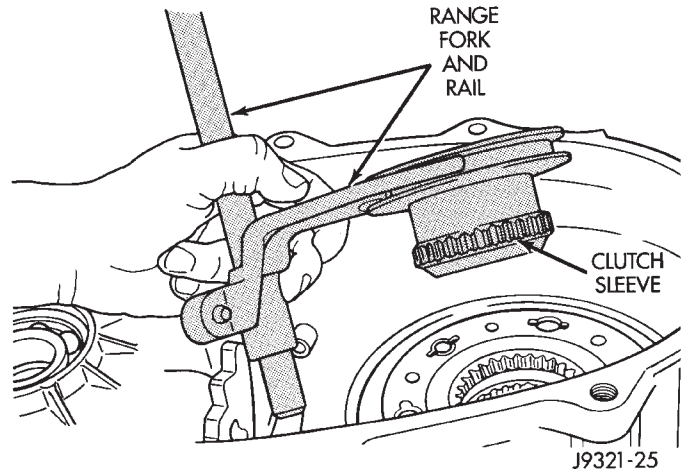
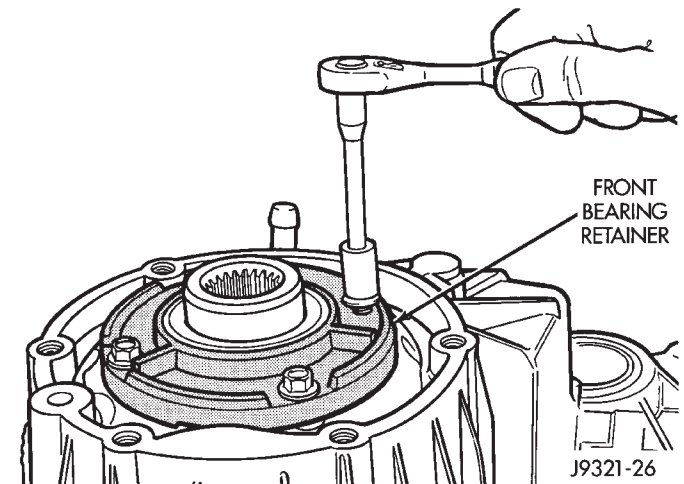

Fig. 25 Removing Range Fork And Clutch Sleeve
Fig. 26 Removing Front Bearing Retainer Bolts
(25) Remove range fork, rail and clutch sleeve as assembly (Fig. 25). Lift shift rail upward, rotate fork out of shift sector and remove assembly.
(26) Turn front case on side so front bearing retainer is accessible.
(27) Remove front bearing retainer bolts (Fig. 26).